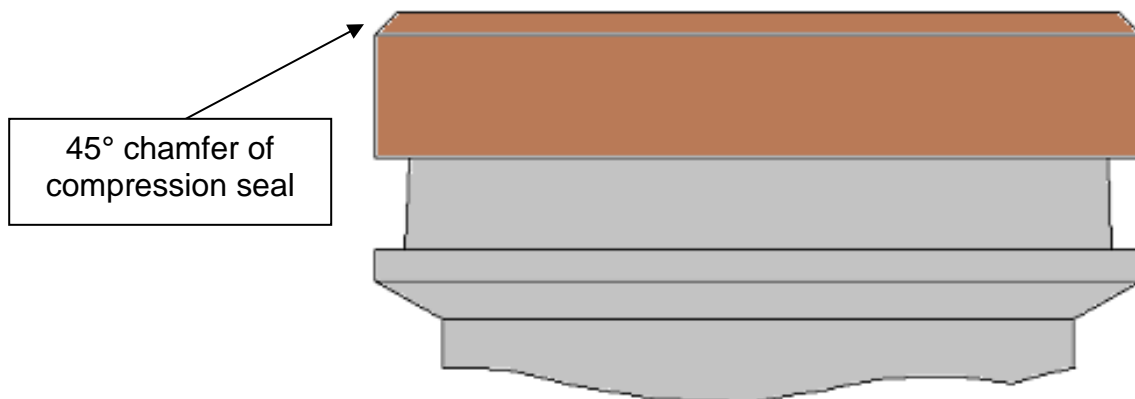

Figure 3: Compression Seal Placement
- 3.1.1 After removing the valve from the packaging, verify the compression seal is appropriately orientated on the insert nose. The 45° chamfer of the compression seal should be facing out (Figure 3).